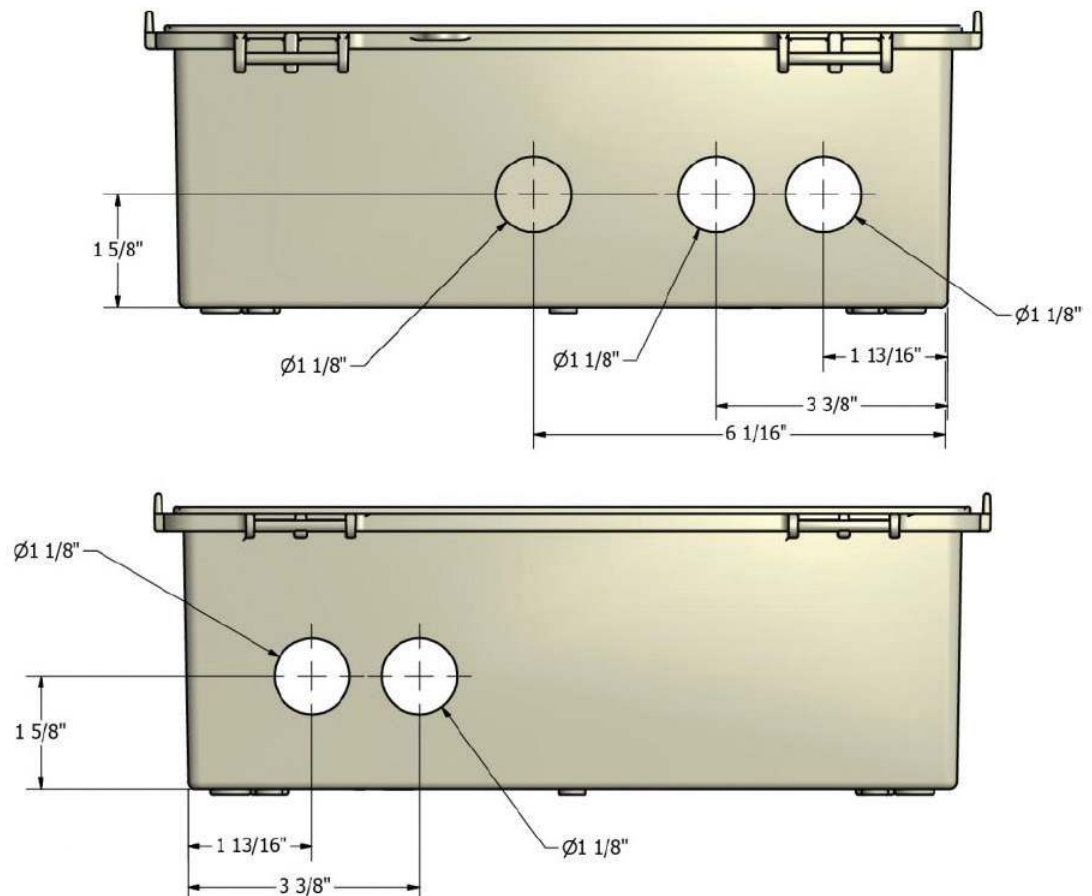

Figure 6
3. Use drilling guides (Figures 6 and 7) to drill conduit holes.